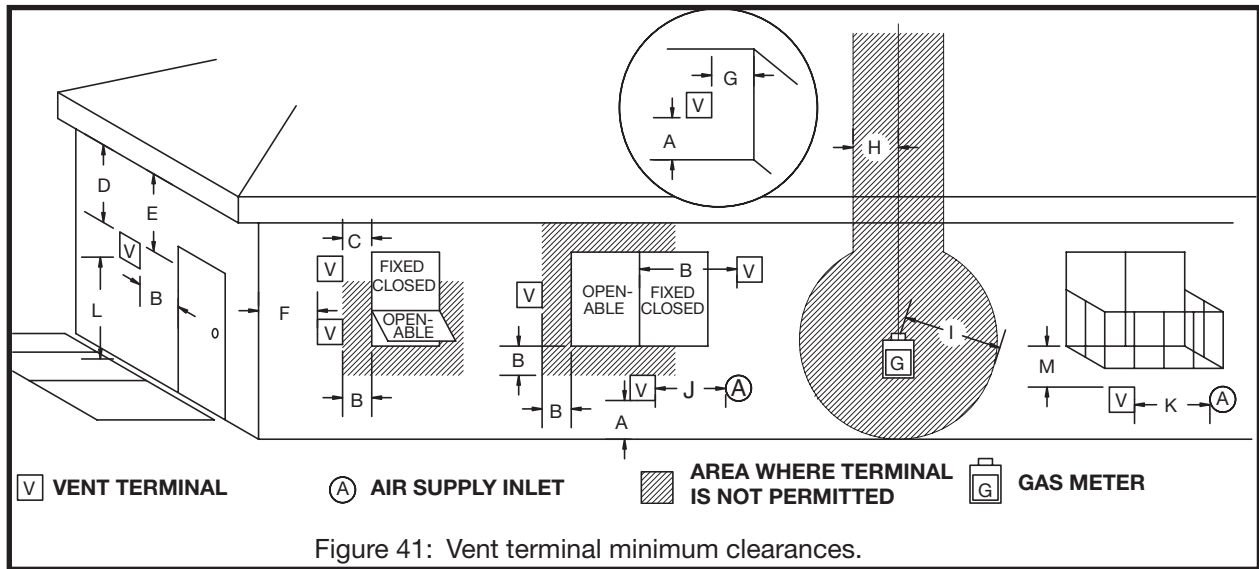
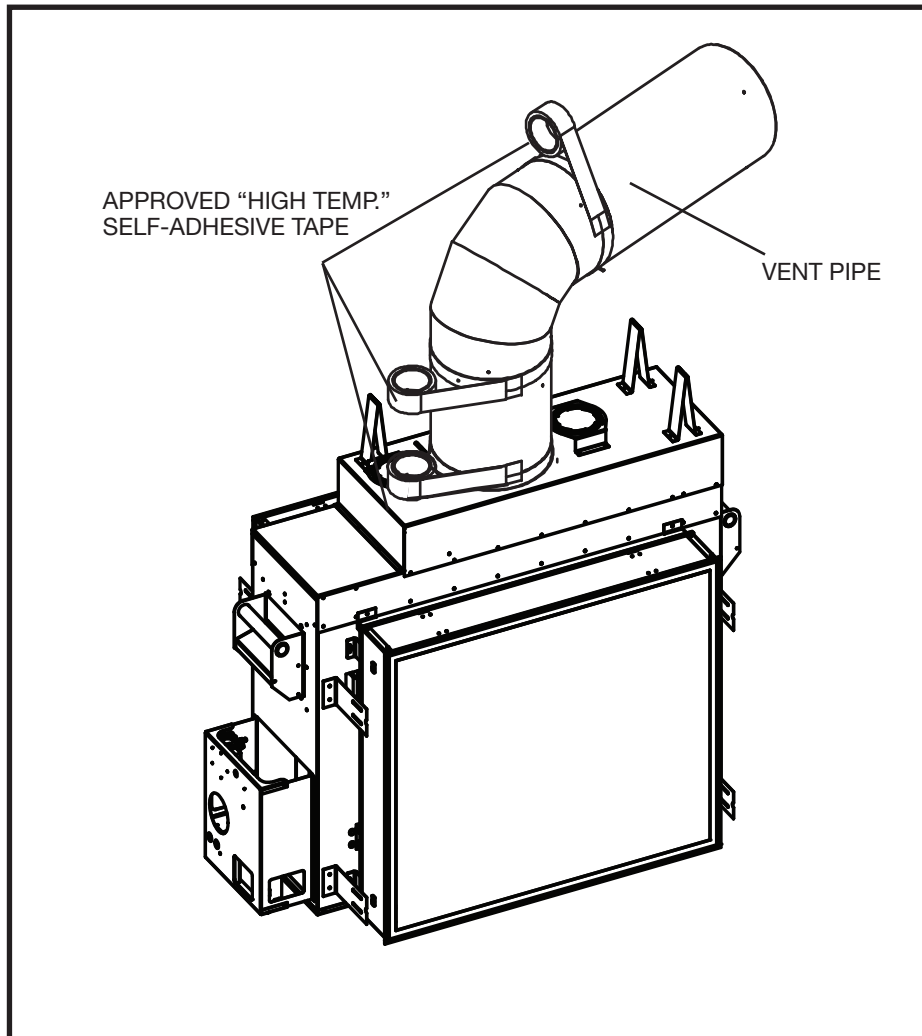

Figure 41: Vent terminal minimum clearances.
Figure 42: TC36ST Sealing vent joints.
Install vent pipe through the wall thimble and attach to flue outlet collar on top of the fireplace. Secure all joints with screws and seal with approved "High Temp." self-adhesive aluminum tape provided. See Figure 42 on page 27.
**NOTE: MINIMUM CLEARANCES TO THE VENT TERMINAL MUST BE MAINTAINED, See Figure 41 & Figure 42 on page 27.**
Seal the vent pipe as per "Figure 42: TC36ST Sealing vent joints." on page 27.
Minimum clearances to the vent terminal must be maintained as shown in Figure 41. Measure clearances to the nearest edge of termination hood.